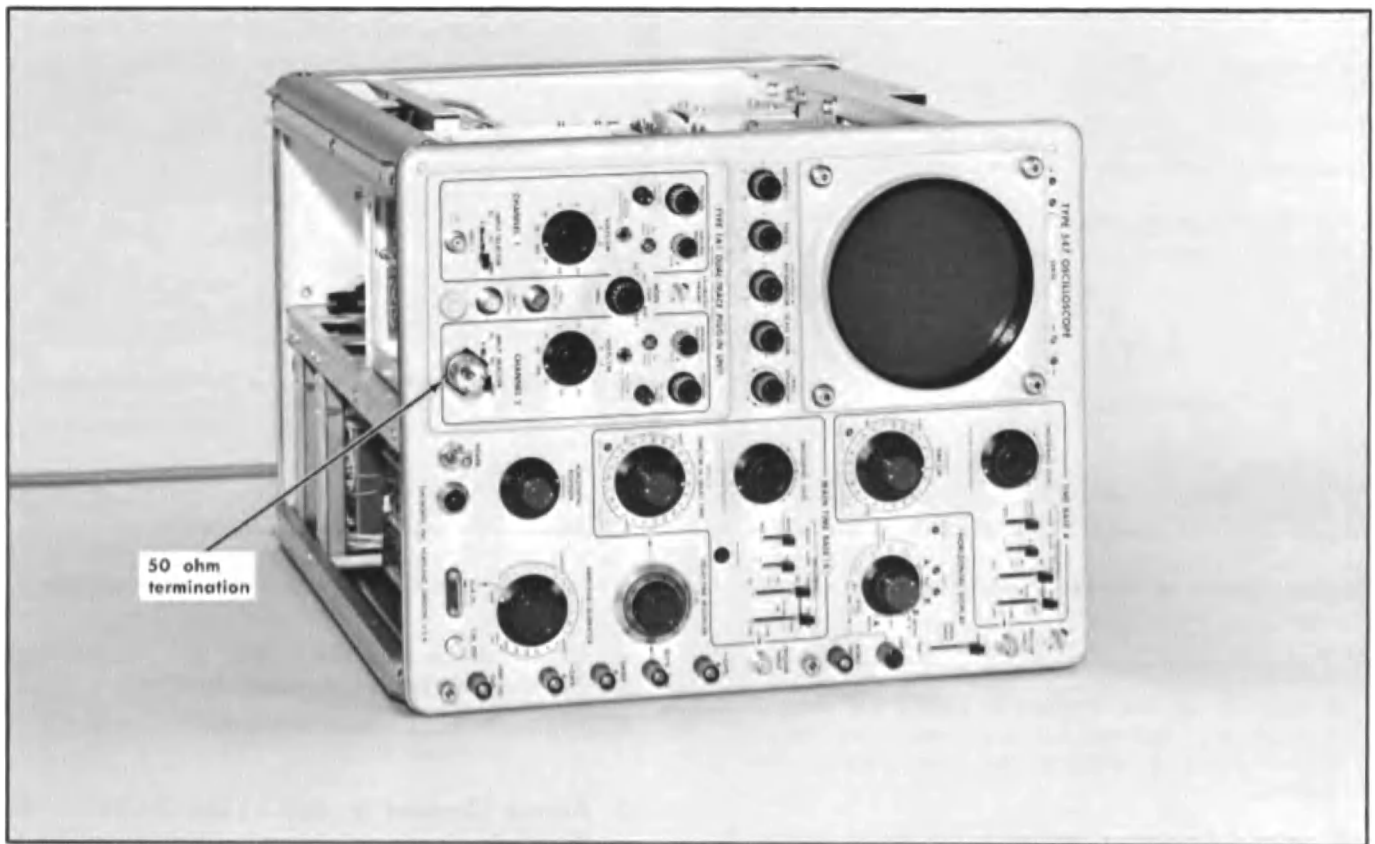

Fig. 7-13. Equipment setup for steps 11 through 16.
- Equipment setup is shown in Fig. 7-13.
- a. Equipment setup is shown in Fig. 7-13. (The 50-ohm termination is not used.)